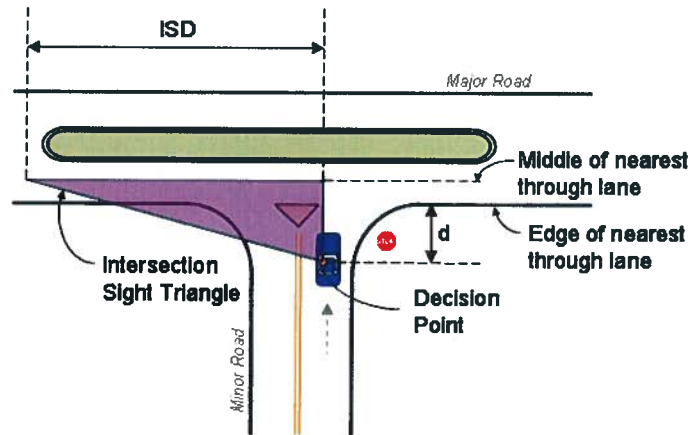

Figure 3. Right turners looking left
- C. **Right out only, stop control:** The sight triangle for a stop controlled intersection with only right turns allowed from the minor road shall be based on Figure 3 and Table 3.
- B. Signal approaches with right turns on red allowed that are not defined by II A, shall follow the criteria for right out only, stop control (Figure 3 and Table 3).
- C. Signal approaches not described by the conditions in either II A or II B shall use an intersection sight distance based on all-way stop control (ID).